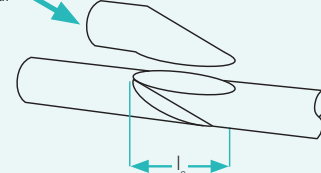

figure 5
- Cut away excess material that the interface shows the same height as the original sealing tape (figure 5).